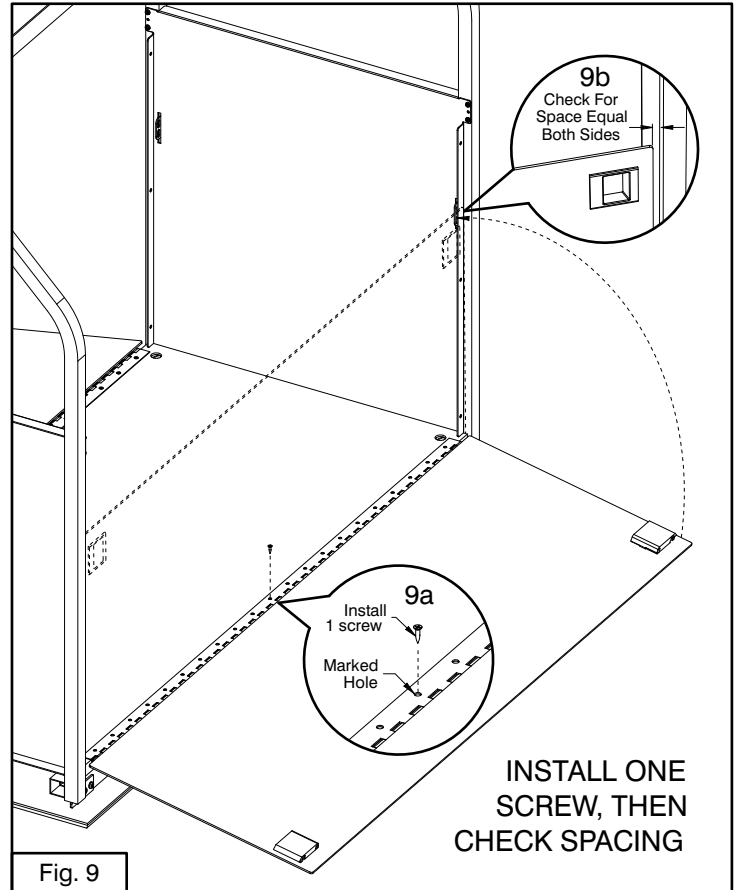

Fig. 9
Step 8. Position ramp/door as shown in Fig. 9 with the latch end resting on the floor and the hinge leaf on the top of platform and the hinge knuckle bumped up against the front edge of the platform (Fig. 7, previous page). Line up the hinge hole with the mark you made in step 7. Install one of the #4 flat head screws (Fig. 9, Inset 9a), then raise and latch the door. Check to be sure that the spacing is equal (Fig. 9, Inset 9b). If the spacing is not equal, repeat step 7 on the previous page.